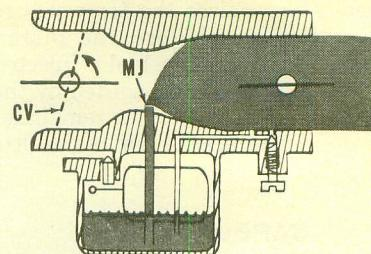

Fig. 1-14-As choke valve (CV) is closed as shown by the broken lines, vacuum is increased at main jet (MJ).
**CHOKE PLATE.** Fig. 1-14 shows a typical choke plate installation in relation to the carburetor venturi.
At cranking speeds, air flows through the carburetor venturi at a slow speed; thus, the pressure in the venturi does not usually decrease to the extent that atmospheric pressure on the fuel will force enough fuel from the nozzle. If the choke plate is closed as shown by the broken line in Fig. 1-14, air cannot enter into the carburetor